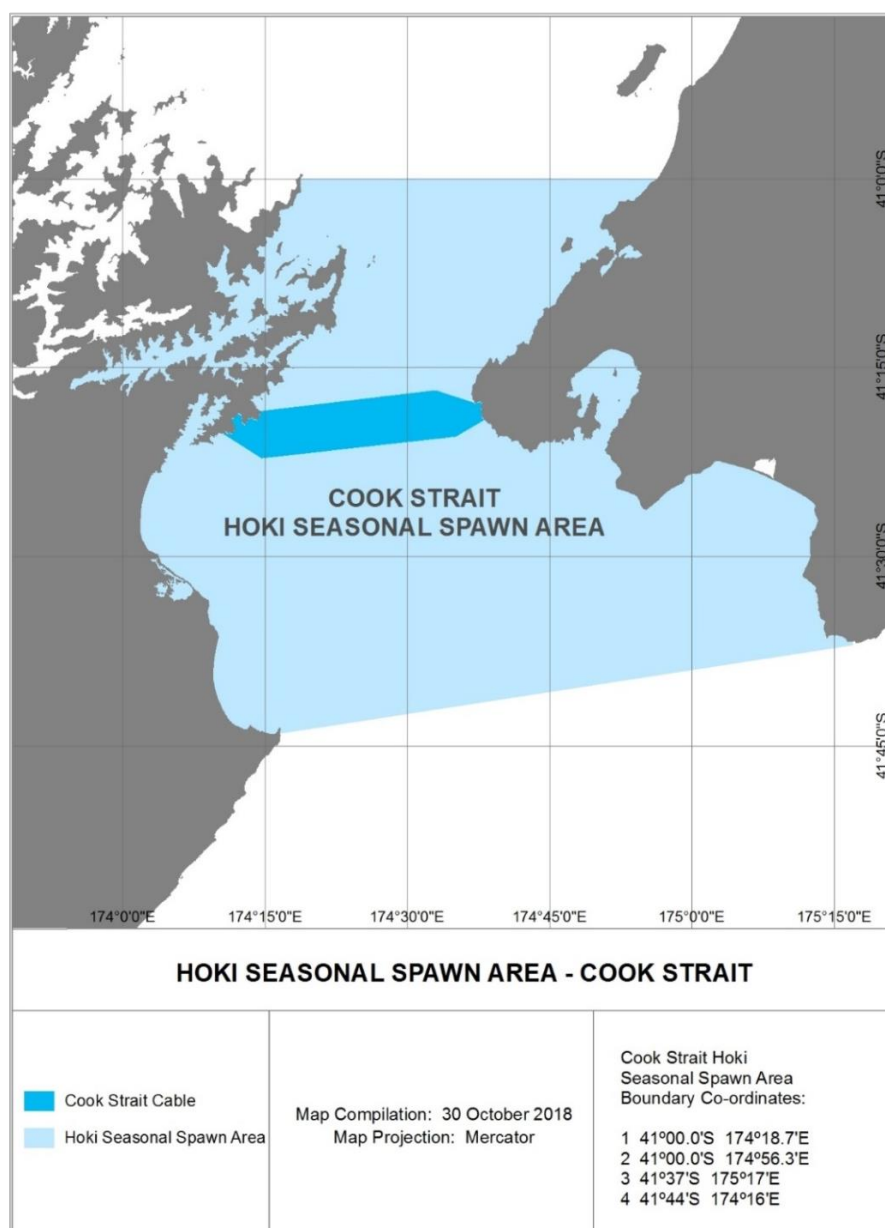

Figure 4: Cook Strait HSSA
- The northern boundary of the Cook Strait HMA, defined as a line extending between 41°00'S, 174°18.7'E and 41°00'S, 174°56.3'E and (i.e. points 1 and 2 in Figure 4)
- The southern boundary defined as a line extending between Cape Campbell light at 41°44'S, 174°16'E and Cape Palliser light at 41°37'S, 175°17'E (i.e. points 3 and 4 in Figure 4).